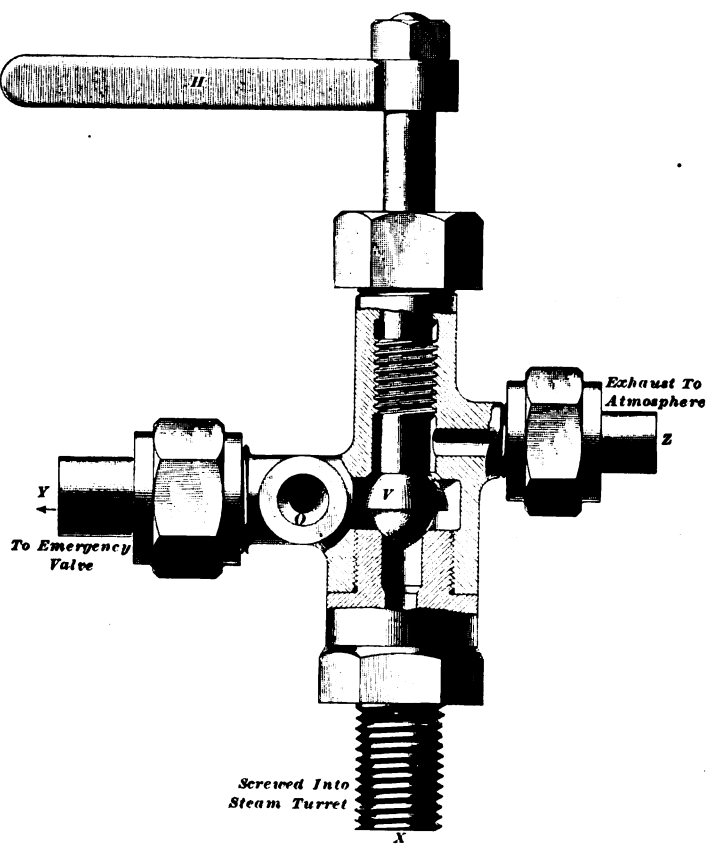

FIG. 31.
**62. Operating Valve.**—In Fig. 31 is given a sectional view of the emergency operating valve used in connection with the Richmond compound. The connection *X* is screwed into the steam turret; the pipe *f*, Fig. 30, that leads to the emergency valve, connects at *Y*, while a pipe connected to *Z* leads to the atmosphere. The valve *V* is a double-seated valve, operated by means of the handle *H*, and is moved from one of its seats to the other by a half turn of the handle. The operating valve is usually so placed on the turret that the engine is working compound when the handle points to
then pass with the steam through the reducing valve into the low-pressure cylinder. Feeding oil into the intercepting valve is to be avoided as much as possible, since it has a tendency to gum up the small packing rings. The small oil cup that is screwed into the connection *O* of the operating valve, Fig. 31, should be filled with cylinder oil, and one cupful will provide the exhaust valve *N* with sufficient lubrication for two days, provided the oil is properly used.